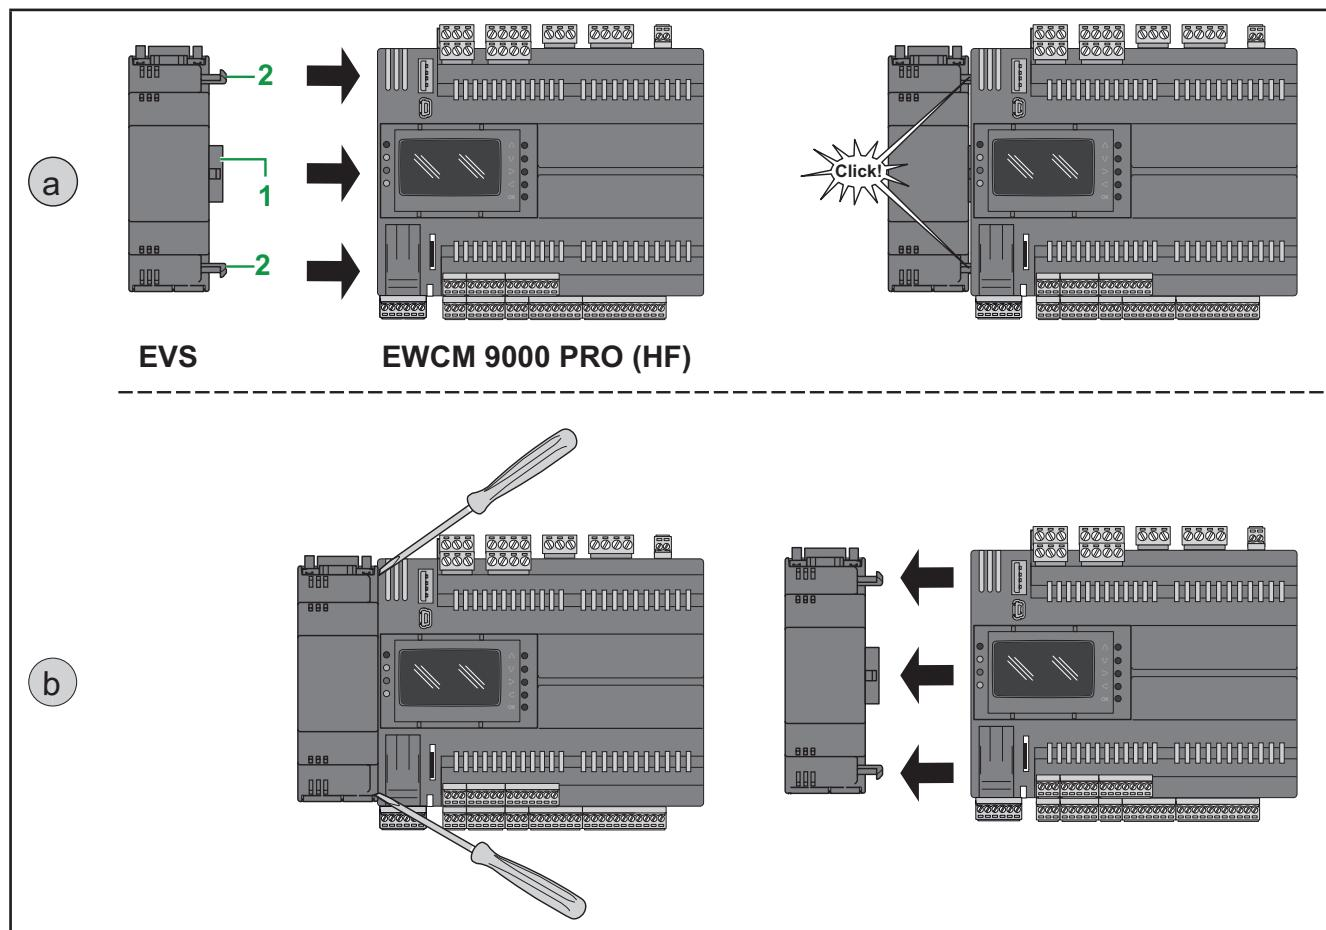

Fig. 14. Assembly (a) / Removal (b) of the EVS communication modules
EVS communication modules are 2DIN modules that can be connected to a **EWCM 9000 PRO** controller (see Fig. 14 on page 29) to increase the number and/or types of communication ports.
1. via the communication module connector (see element 1 in Fig. 14 on page 29),
2. with two fixing hooks (see elements 2 in Fig. 14 on page 29) to which the communication module is fixed.